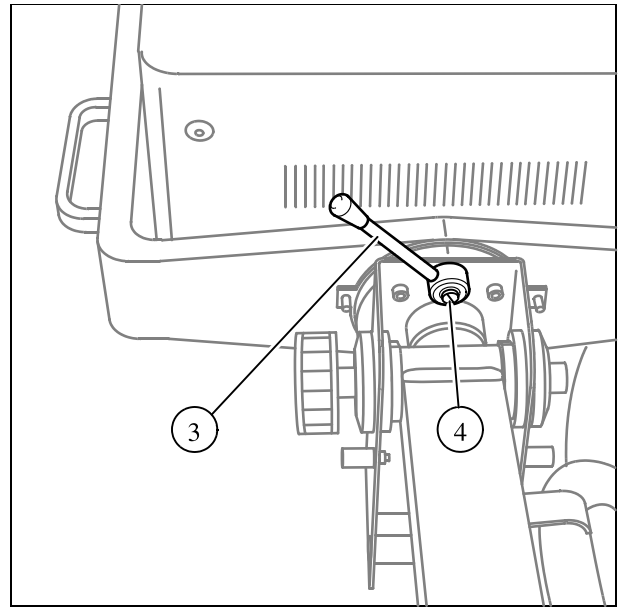

Fig. 3:
- Check the locking handle (3//Fig. 3 / p. 27) for firm seating and tighten, if necessary.
- With the locking device released (locking handle (3//Fig. 3 / p. 27) set counterclockwise), it must be possible to move the single tank to all sides easily.
- Checking the locking device: Tighten the locking handle (3//Fig. 3 / p. 27) in clockwise direction. It should no longer be possible to shift the single tank.
- Tighten the locking handle (3//Fig. 3 / p. 27) in clockwise direction up to the stop.
- Unscrew the screw (4//Fig. 3 / p. 27) and push the locking handle off the shaft using the screwdriver.
- Insert the locking handle in perpendicular position and tighten the screw (4//Fig. 3 / p. 27) securely.